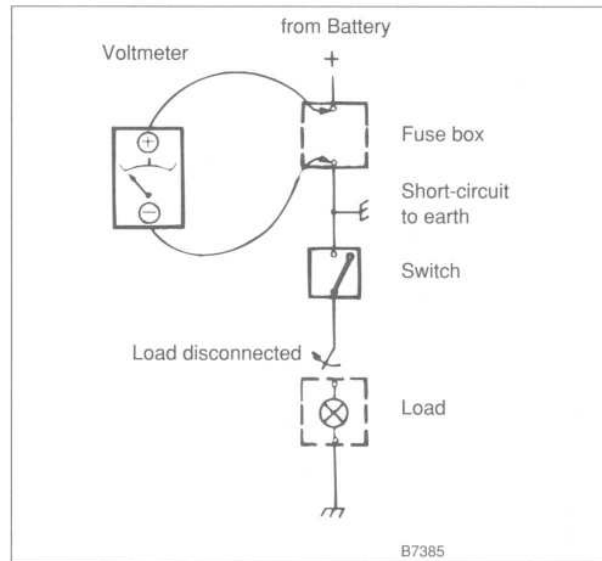

Fig. 5. Voltmeter being used to find short circuit.
3. Using a voltmeter, connect the test leads across the fuse terminals. See Fig. 5. Make sure power is present in the circuit, if necessary turn the key on.